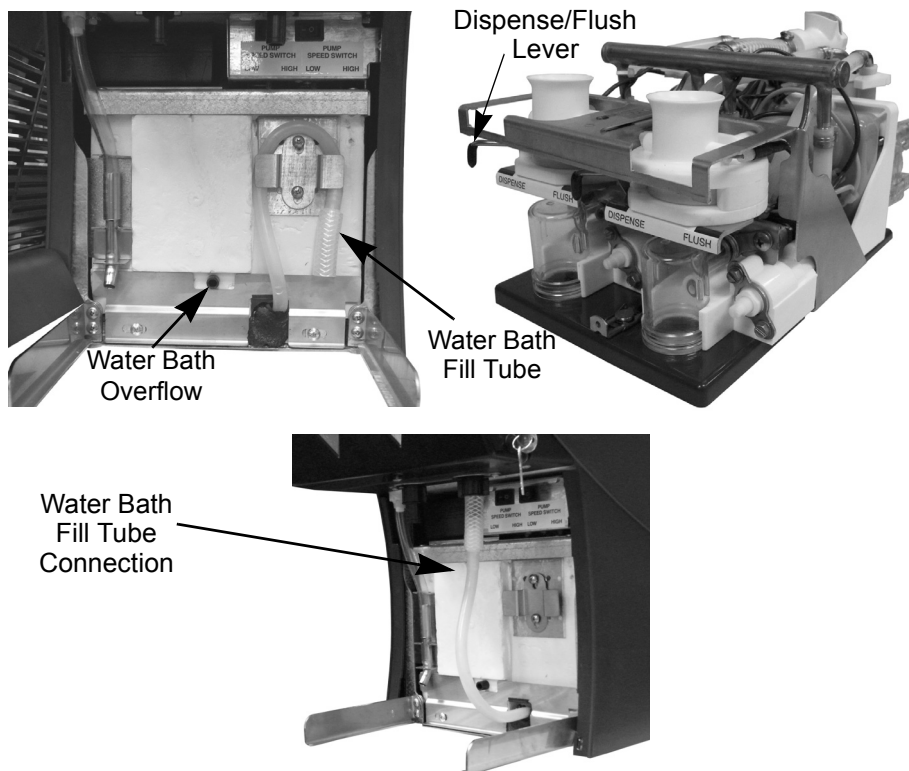

Figure 5. Water Bath and Dispense/Flush Lever
2. Open the door and verify that the flush I dispense lever is in the dispense mode. (see Figure 5) Ice bath must always be filled in the dispense mode.